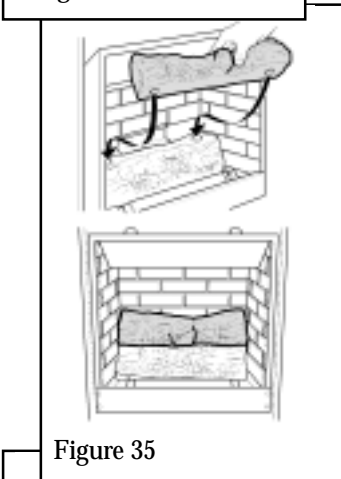

Figure 35
2. Place the rear log over the base log. Locate the holes in the top log into the pegs in the base log. See figure 35.